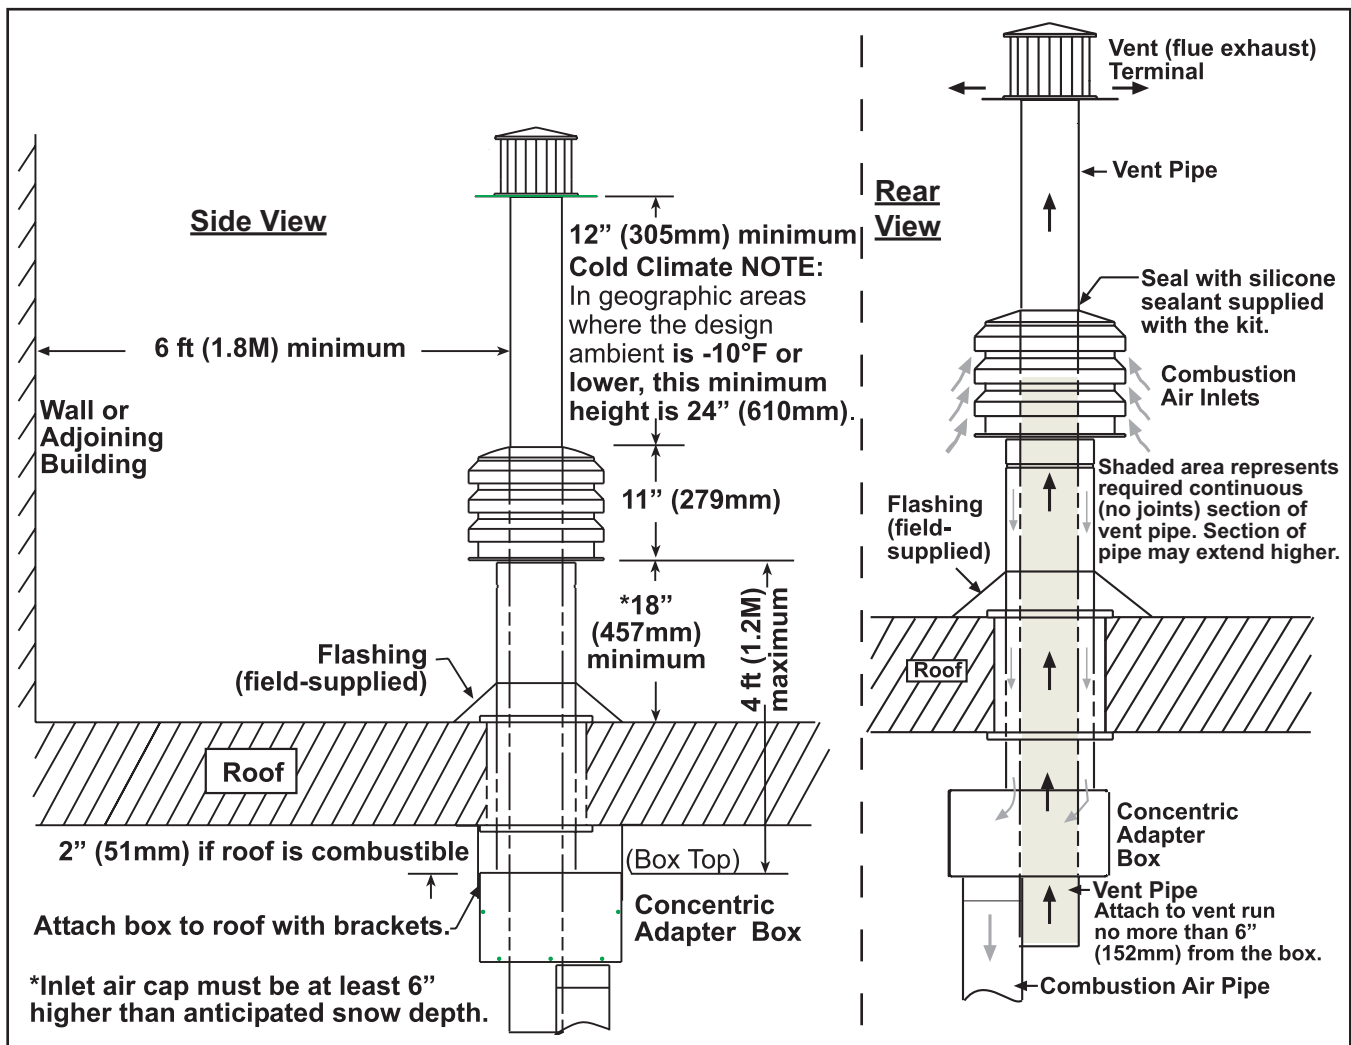

Figure 13. Option CC2 Installation
- b. Select location away from fresh air intakes, allowing space for concentric adapter box inside. Vent terminal must be located away from adjacent buildings as shown in Figure 13.
11. Verify compliance with Figure 13 and with all specific venting requirements listed above.